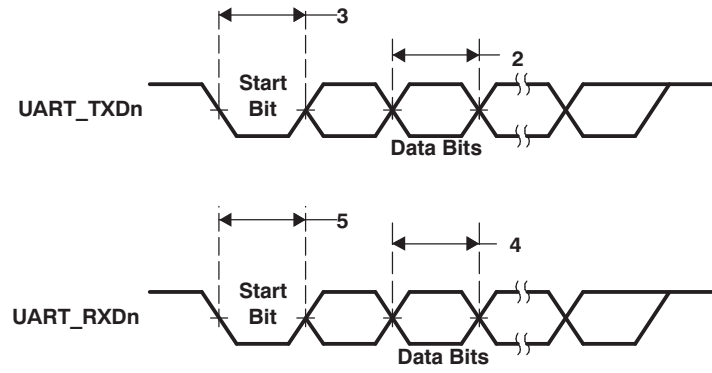

Figure 5-35. UART Transmit/Receive Timing
**Table 5-26. Timing Requirements for UARTx Receive (see Figure 5-35)**
(1) U = UART baud time = 1/programmed baud rate.
**Table 5-27. Switching Characteristics Over Recommended Operating Conditions for UARTx Transmit (see Figure 5-35)**